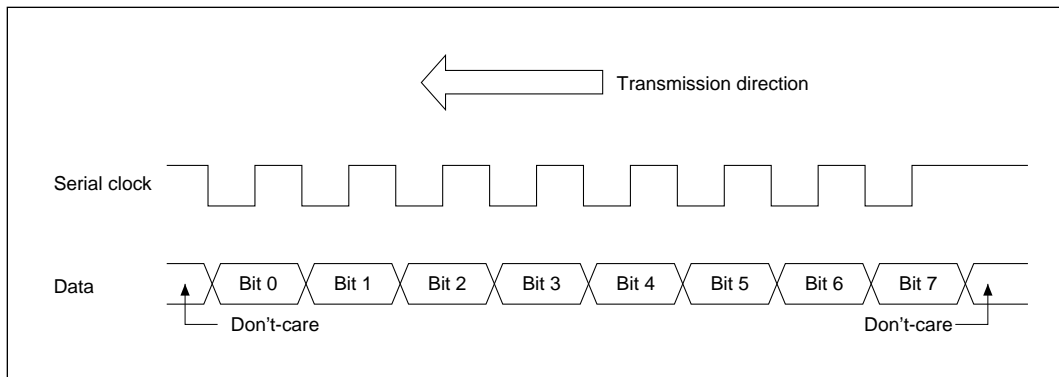

Figure 14-4 Data Format in Synchronous Mode
- 1. Data Format:** Figure 14-4 shows the communication format used in the synchronous mode. The data length is 8 bits for both the transmit and receive directions. The least significant bit (LSB) is sent and received first. Each bit of transmit data is output from the falling edge of the serial clock pulse to the next falling edge. Received bits are latched on the rising edge of the serial clock pulse.